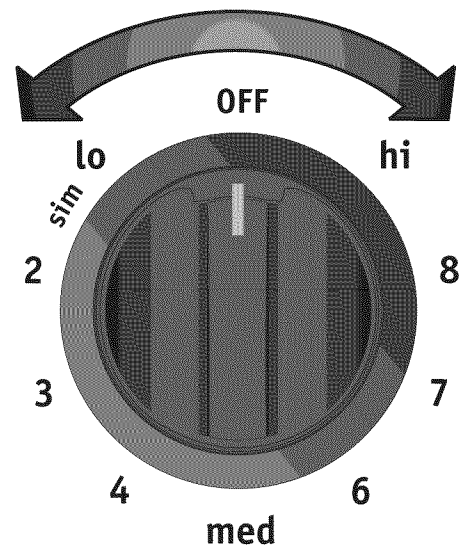

Figure 2
2. Push in and turn the surface control knob in either direction to the desired setting (Figure 2). Start most cooking operations on a higher setting and then turn to a lower setting to finish cooking. Each surface element provides a constant amount of heat at each setting. A glowing red surface heating area extending beyond the bottom edge of the cookware indicates the cookware is **too small** for the surface heating area.